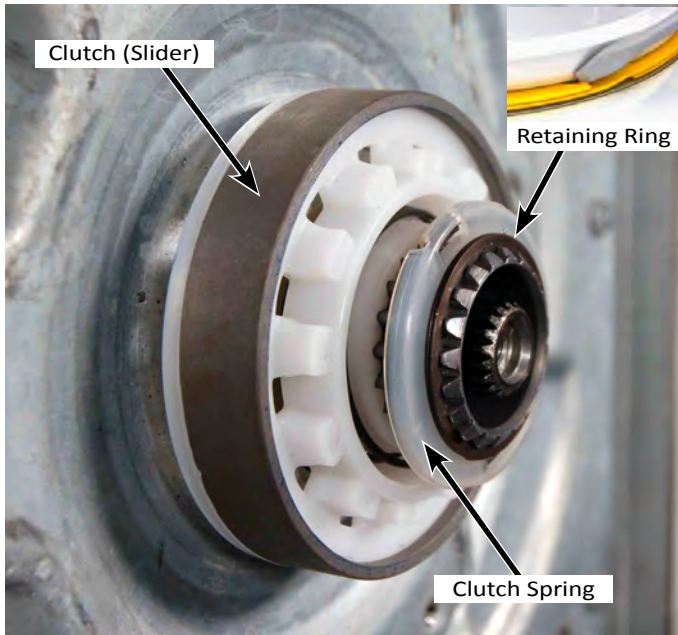

Figure 1
- Figure 1 shows the three parts of the Clutch Assembly; the spiral retaining ring, the clutch spring, and the clutch (slider). The first step in removing the clutch assembly is to remove the spiral retaining ring. Locate the overlap of the spiral ring and use a small flat blade screwdriver to pry ring off of shaft.